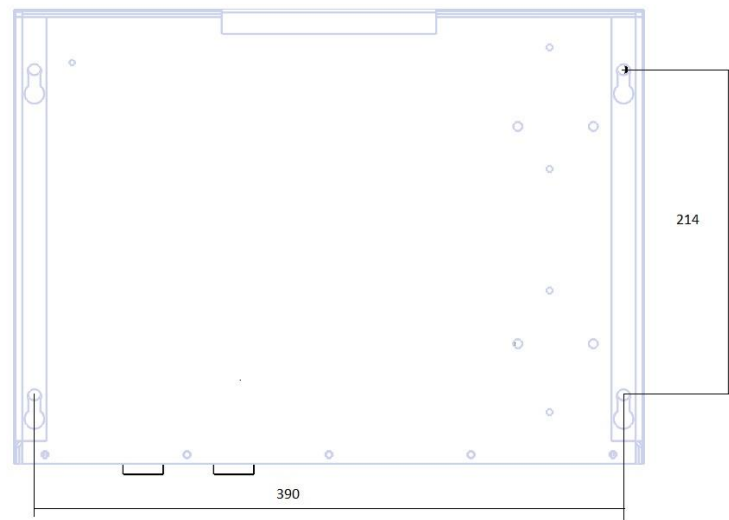

Fig.2 Positions of fixing holes. M6 or equivalent fixings are recommended
- Make sure the fixing points and fixing methods will take the weight of the Little Magic Thermodynamic Box. Please refer the Fig.2 for the fixing location of the unit.